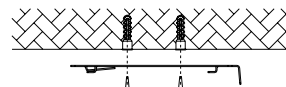

Fig. 3.3
3. Secure the mounting plate to the ceiling with the wall anchor and screws (Fig 3.3).